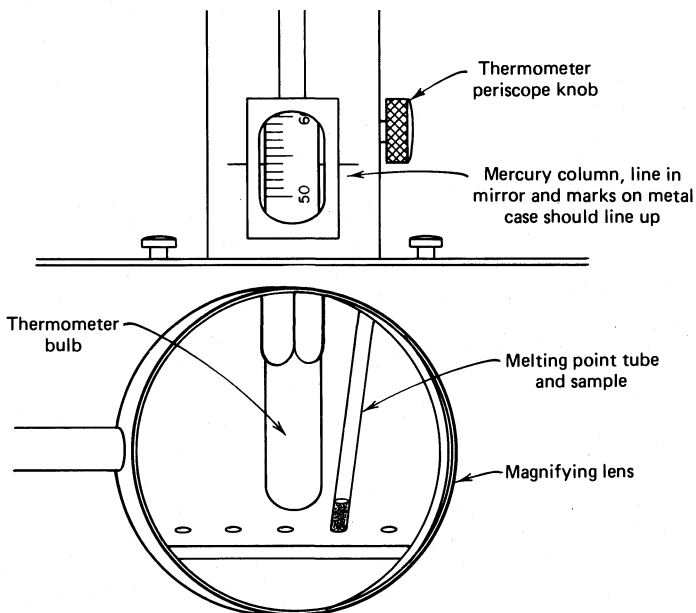

Fig. 38 Reading the temperature.
13. When the first crystals *just start to melt*, record the temperature. When the *last crystal just disappears*, record the temperature. If both points appear to be the same, either the sample is extremely pure, or the temperature rise was *too fast*. If you record the temperature with the horizontal index line in the mirror matched to the lines etched on both sides of the periscope window and the top of the mercury thread at the same time, you'll be looking at the thermometer scale head on. This will give you the smallest error in *reading* the temperature (Fig. 38).